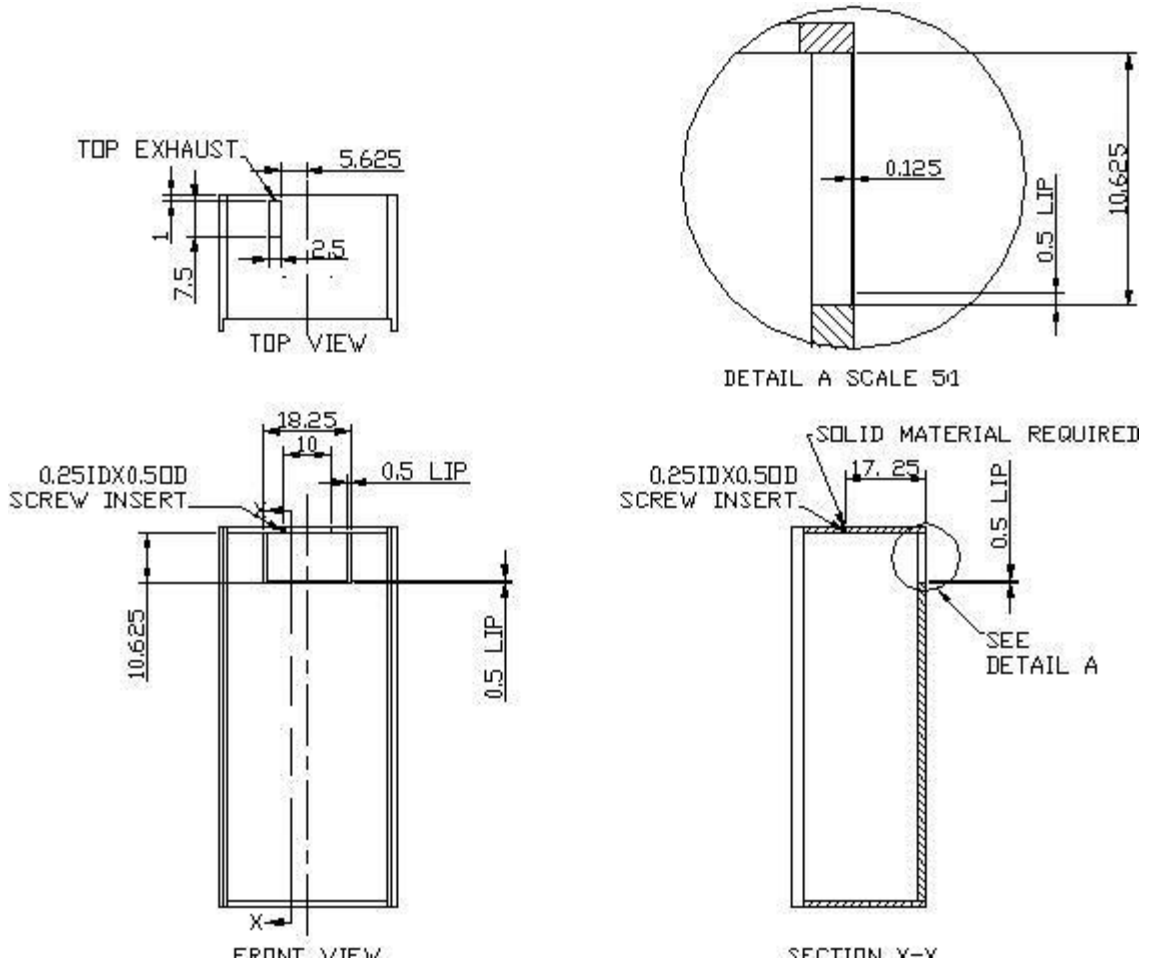

Fig. 2.1 CUTOUT AND HOLE DIMENSIONS
- Cut a rectangular inside opening at the rear of the cabinet with the 1/4" clearance inwards to the width and height of the cooling unit. By not going through, leave 1/2" lip inside at the wall to place the gaskets (see Fig. 2.1 & 2.2).
- If top exhaust installation, cut another rectangular opening at the top of the cabinet to the length and width of the top exhaust (see Fig.2.1 & 2.3).
- Install 2 pieces of 1/4" ID wood thread inserts at the ceiling (see Fig.2.1 & 2.4).